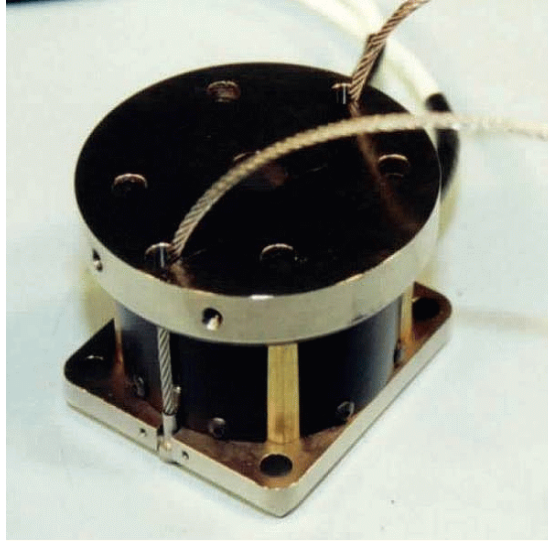

Figure 5.4- Cables in lower neck load cell
3. Identify the front of the Lower Neck Load Cell (T1INM320) by looking at the four main mounting holes. The holes are spaced closest together on the front side of the load cell. (Note: The instrumentation wires exit at the rear of the load cell.) Pass the front and rear cable ball ends through the cable mounting holes in the front and rear of the lower neck load cell respectively. The cables should pass through the load cell top plate and out the slots in the side as shown in **Figure 5.4**.